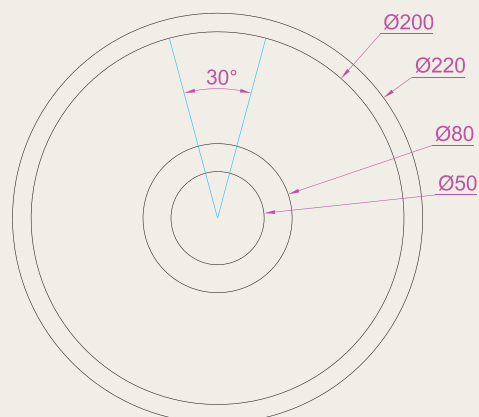
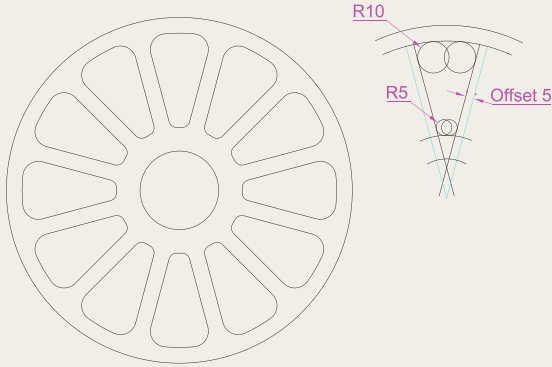

Fig. 5.49 Exercise 4 – circles and lines on which the exercise is based
Fig. 5.50 Exercise 4
4. Construct the circles and lines shown in Fig. 5.49. Using **Offset** and the **Ttr** prompt of the **Circle** tool followed by **Trim**, construct one of the outlines arrayed within the outer circle. Then, with **Polyline Edit**, change the lines and arcs into a pline of width = 0.3. Finally, array the outline twelve times around the centre of the circles (Fig. 5.50).